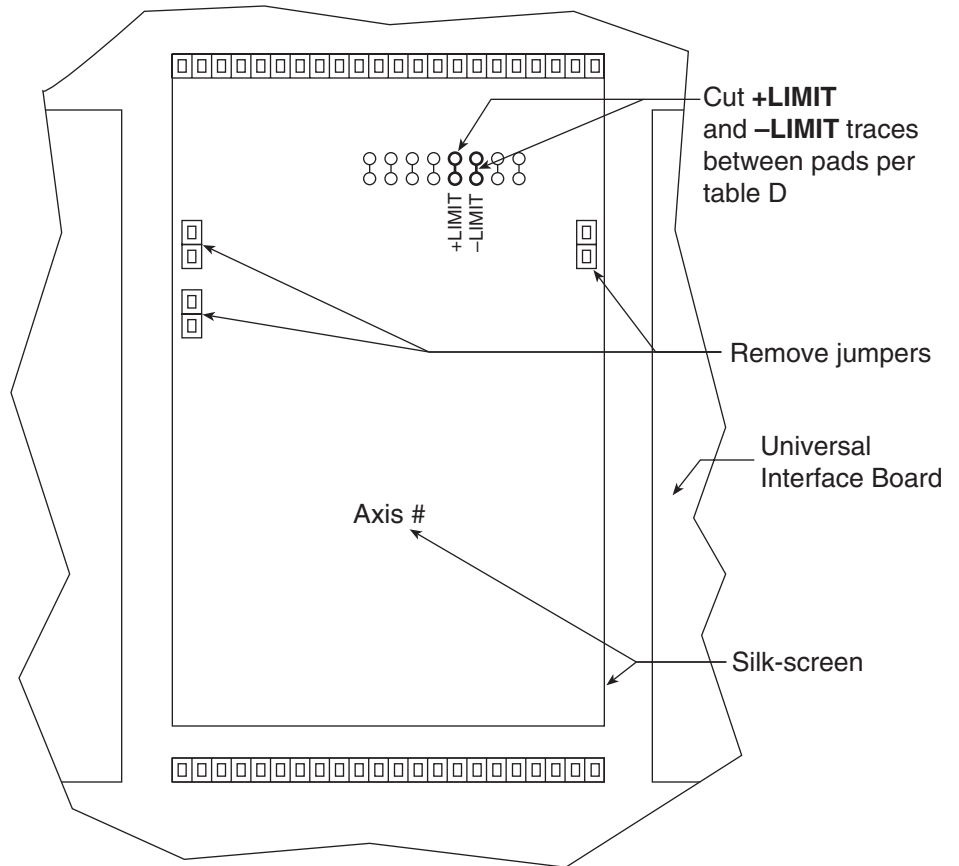

Figure 2-2: Installation View of Jumpers inside the DCIB
4. Remove the three jumpers that belong to the axes receiving the module (Figure 2-2). The jumpers are located inside the larger rectangle identifying the location of each axis module, clearly marked in silk-screen.
5. If limit switch signals need to be generated from the current sensing circuit, cut the limit switch traces for the desired axes on the DC Interface Box as indicated in Figure 2-2 (See Table 2-1, D).